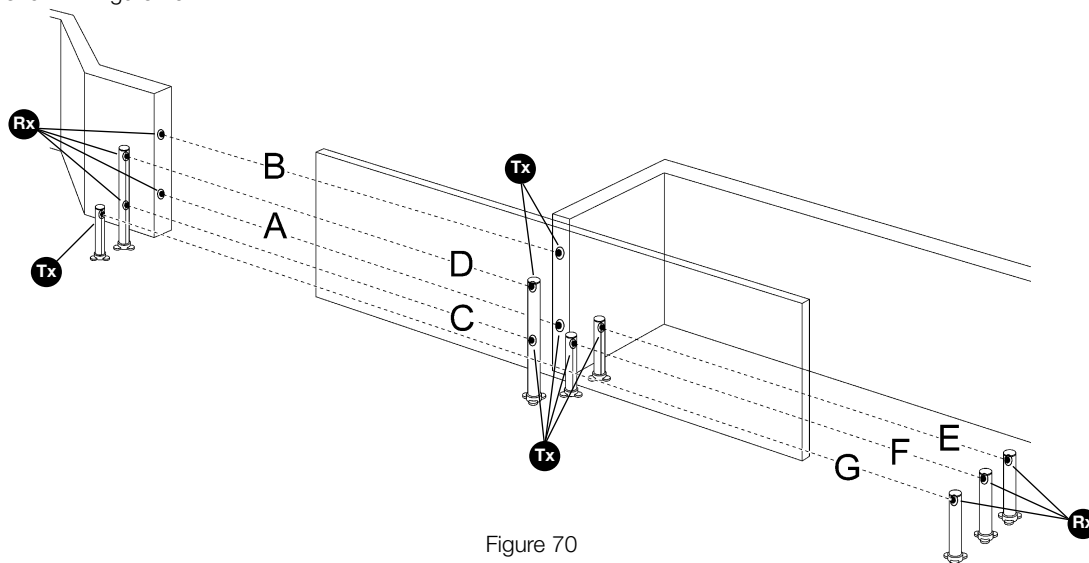

Figure 70
Additional photocells can be installed at any time in addition to those supplied with SL1 and SL10. In an automation system for sliding gates these can be arranged as shown in figure 70.
Note: the two photocell elements (TX-RX) can be positioned wherever you like. Only if photocell G is used together with photocell B must the position of the elements shown in figure 70 be respected.
- 2 Identify the position where they are installed based on figure 70 and connect with jumper according to Table 9.